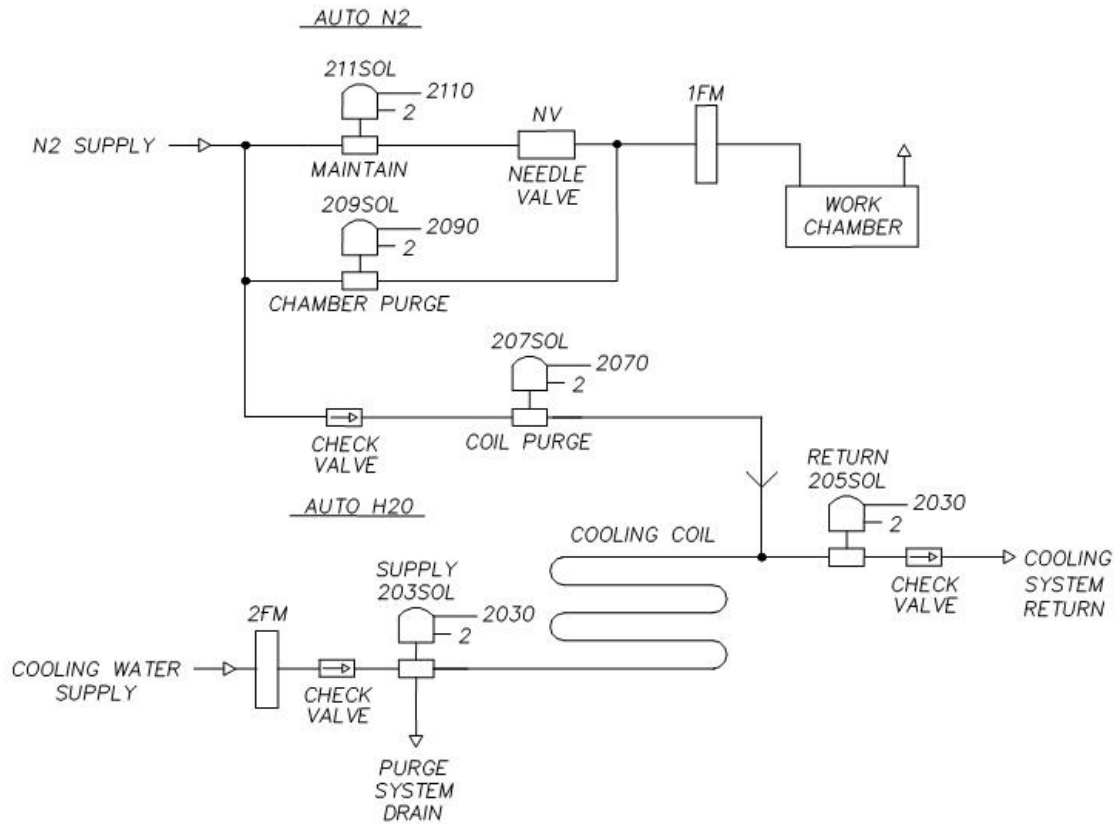

Figure 16. Water and Nitrogen Piping Schematic.
8. The third and final segment is the COOLDOWN MODE. In Cooldown mode, water valves are energized to bring the chamber to a safe unloading temperature (Figure 16).